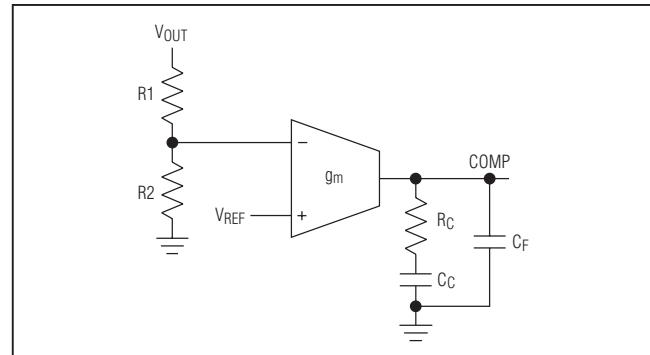

Figure 4. Compensation Network
The controller uses a current-mode control scheme that regulates the output voltage by forcing the required current through the external inductor. The device uses the voltage drop across the high-side MOSFET to sense inductor current. Current-mode control eliminates the double pole in the feedback loop caused by the inductor and output capacitor, resulting in a smaller phase shift and requiring less elaborate error-amplifier compensation than voltage-mode control. Only a simple single-series resistor (RC) and capacitor (CC) are required to have a stable, high-bandwidth loop in applications where ceramic capacitors are used for output filtering (Figure 4). For other types of capacitors, due to the higher capacitance and ESR, the frequency of the zero created by the capacitance and ESR is lower than the desired closed-loop crossover frequency. To stabilize a nonceramic output capacitor loop, add another compensation capacitor (CF) from COMP to GND to cancel this ESR zero.